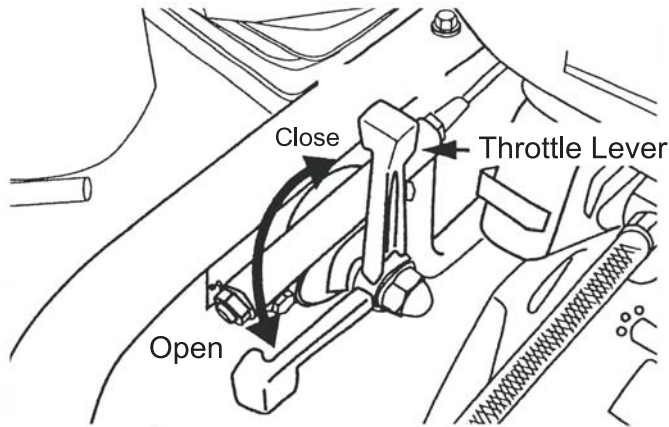

Figure 11. Throttle Lever (Full Open)
1. To start the rammer tamping action, move the throttle lever (Figure 11) quickly from **IDLE** (close) to the **FULL OPEN** position. **DO NOT** move the throttle lever slowly as this may cause damage to the clutch or spring.